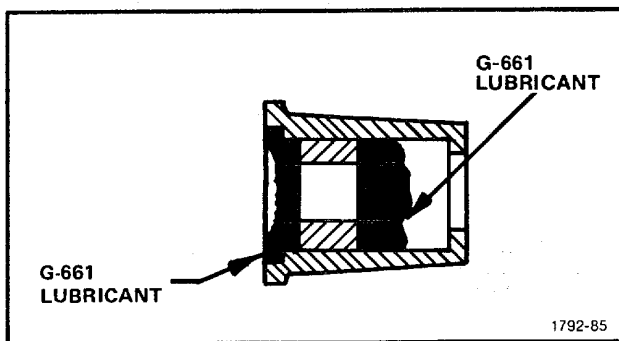

Figure 5-32. Lubrication of ZERO REFERENCE knob.
28. Installation of the ZERO REFERENCE knob and the zero reference CHECK pushbutton (see Figs.5-32 and 5-33)
1. Apply G-661 lubricant to the ZERO REFERENCE knob as shown in Fig. 5-32.